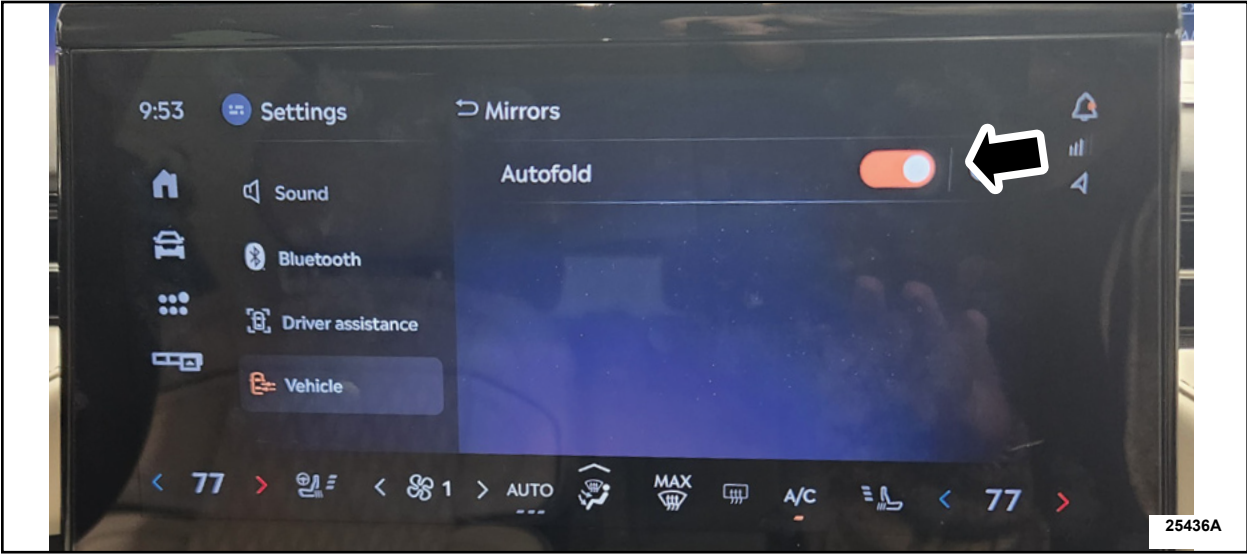

FIGURE 2
- (If equipped) Select Mirrors – Autofold – On (See Figure 2 on page 3)